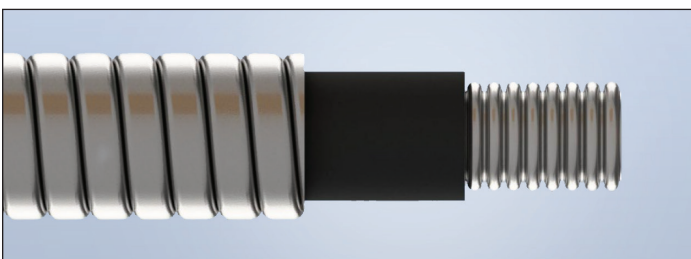

Figure: 1-10
5. Slide the floppy conduit over the tubing (Figure 1-10).